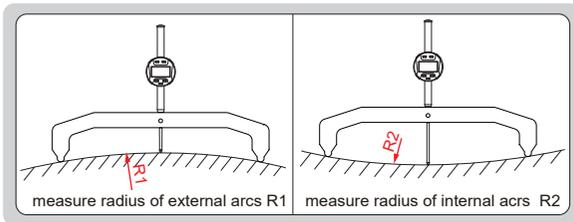
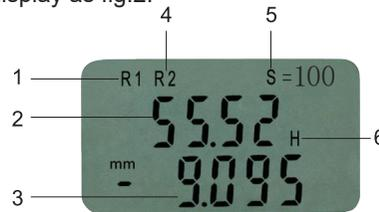

fig.1
fig.2
1.Measure radius of internal or external arcs(fig.1),the display as fig.2.